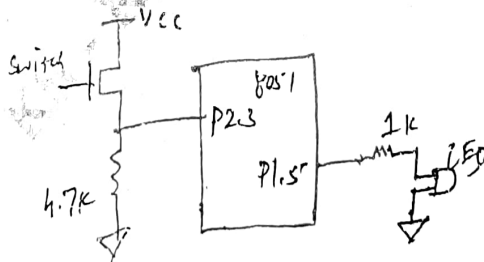

Fig Q6(c)
- c. In the Fig Q6(c), write an ALP to turn on LED when switch is pressed and turn off, LED when switch is not pressed.